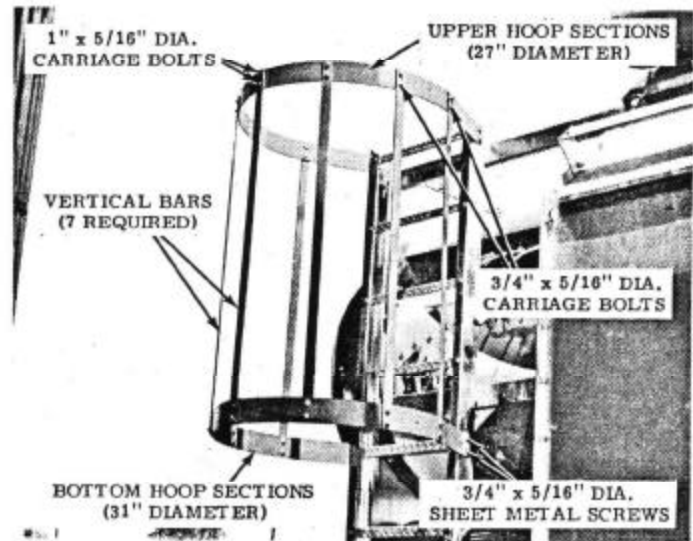

FIG. 1 - FRONT SAFETY CAGE INSTALLED
1. Use 3/4" x 5/16" Dia. sheet metal screws and mount the two half sections of each upper and lower safety cage hoop onto the outside of the ladder, as shown in Fig. 1.
3. Install the remaining 6 vertical bars on the outside using 3/4" x 5/16" Dia. carriage bolts. After all parts are installed as shown in Fig. 1, fully tighten all bolts and screws.